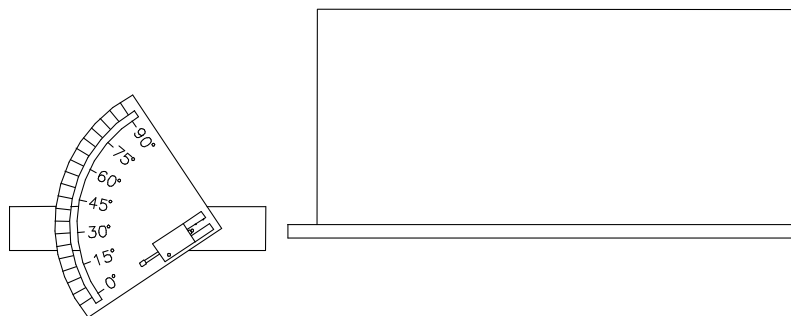

Figure 3. Projectile motion apparatus and landing pad.
2. After the brief Instructor discussion, familiarize yourself with the apparatus. The central feature of the setup is a “spring-loaded gun” mounted on a plate marked in degrees, as shown in Fig. 3. The plate can be rotated around a horizontal axis to set the initial direction of motion: a desired angle can be set by loosening the knurled screw attached to the plate, aligning the required angle mark with the horizontal mark on the stand and then tightening the screw.